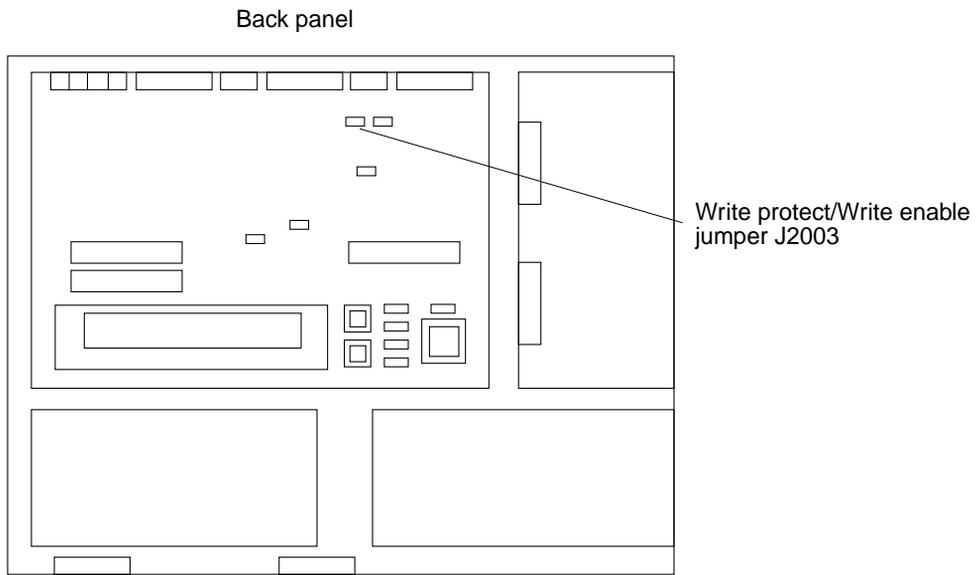

FIGURE 1-1 Sun Ultra 1/Ultra 1 Creator Flash PROM Jumper Location on Motherboard
- For a Sun Ultra 1 or Ultra 1 Creator system, see FIGURE 1-1 on page 1-4.